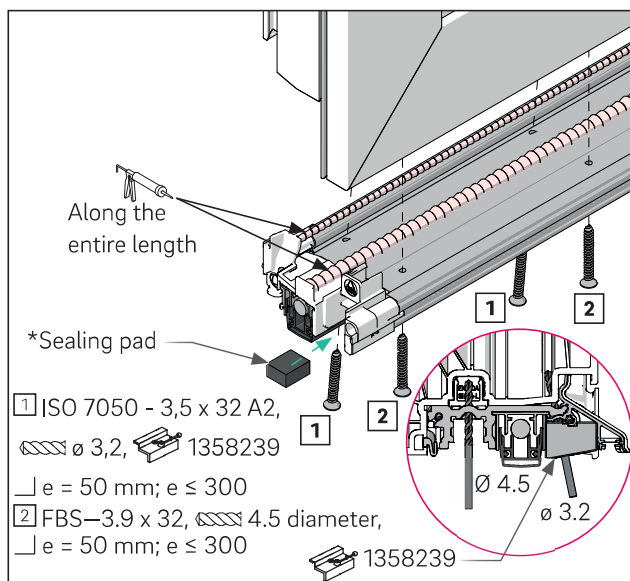
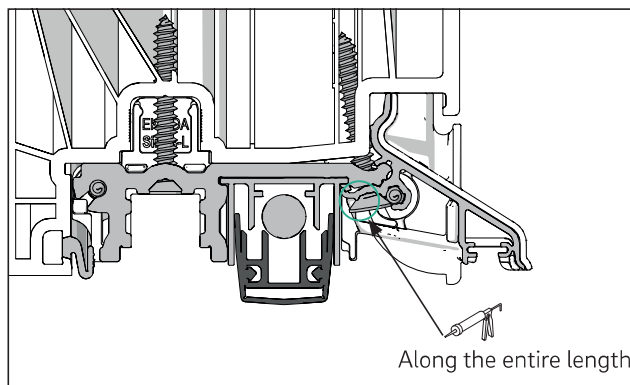

Fig. 5: Installation of the adapter profile with weather rail, weather rail end cap and floor seal on the sash
Fig. 6: Sealing the floor seal
- Apply silicone to the adapter profile as shown in fig. 5 and all surfaces which contact the sash. Then position the adapter profile, including the already installed end caps, at the bottom of the sash.
- Pre-drill the adapter profile in the fitting groove as shown in fig. 5 with 4.5 mm diameter; one hole each approx. 50 mm starting from the edge of the weather rail and additional holes at 300 mm intervals. Pre-drilling in the area of the weather rail  is carried out using the drilling jig 1358239. Now screw the adapter profile into the pre-drilled holes using window construction screws  and A2 sheet metal screws . The screw connection also secures the lowerable floor seal in the groove and secures it against movement (fig. 5 and 6).
- Then seal the floor seal to the adapter profile and the end caps with silicone over the entire length (fig. 6).
- Deburr the cut surfaces and slide the lowerable floor seal into the groove provided in the adapter profile. The floor seal must seal flush on the hinge side with the weather rail end cap (see page 13, fig. 5) and flush on the lock side
- Apply silicone to the adapter profile as shown in fig. 5 (see page 13) and also seal the weather rail end cap to the sash with silicone. Then attach the adapter profile, including the already installed end cap, to the bottom of the sash and screw it through the end caps.
- Only pre-drill the adapter profile in the fitting groove and on the weather rail according to fig. 5 (see page 13) with 4.5 mm diameter or 3.2 mm diameter; one hole each starting approx. 50 mm from the outside and additional holes at 300 mm intervals. Select the drilling depth on the weather rail so that the weather rail and the adapter profile are drilled through, but the sash profile itself is not drilled into. Now screw the adapter profile into the pre-drilled holes using self-tapping or sheet metal screws (after pre-drilling with 2.5 mm diameter). This screw connection also secures the lowerable floor seal in the groove (fig. 5 and 6, see page) 13. Then seal the floor seal to the adapter profile and the end cap with silicone (fig. 6, see page 13).